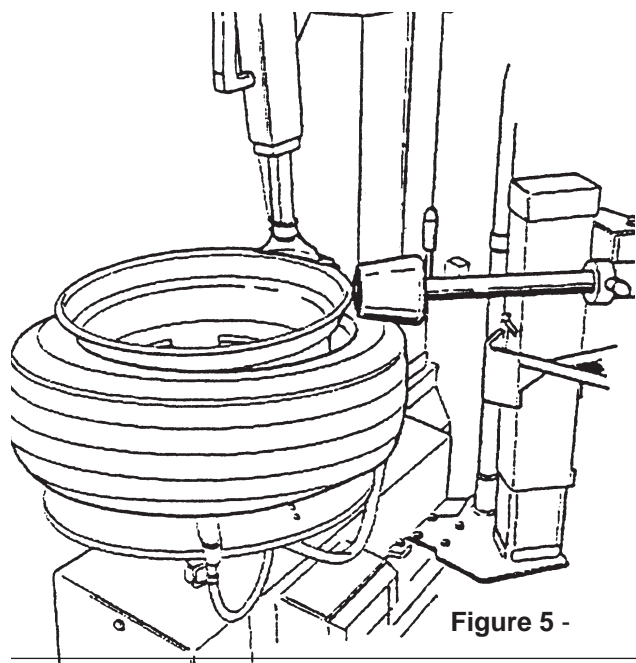

Figure 5 -
**B.** Position the roller as shown in Figure 5. During the mounting operation the roller pressure helps keeping the bead in the drop center. Move the roller to rest position.